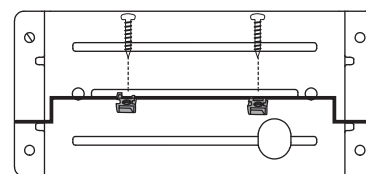

Figure 1
- (A) Install the 2 nut covers on the plate. (Figure 1)
The racks provided, thermoplastic material with steel insert, are suitable for gates with a maximum weight 500 kg. They are easily mounted on the gate by simply screwing. We provide with self-tapping screws. If the construction of your gate doesn't allow direct mounting racks, you will have to create a new base of support. (Figure 1)